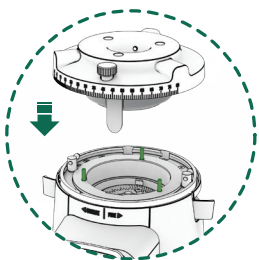

Fig. 14
12.3.10. When reassembling the grind regulator, face the silicon curtain in front and the three holes with three pins in the grind chamber (Fig. 14).